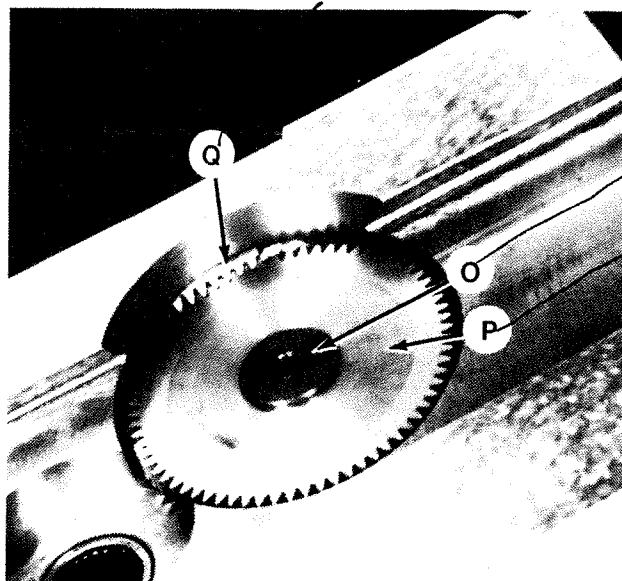

Figure 2.18 - Turret Rack and Gear
13. If necessary, remove stud "O" to remove gear "P", Figure 2.18 .
8. Replace gear "P" and stud "O", Figure 2.18 .